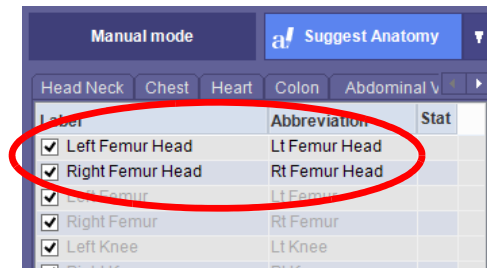

Figure 3-46 Label Window
1. Right-click on the label dot. The Anatomy List menu is displayed. See Figure 3-46